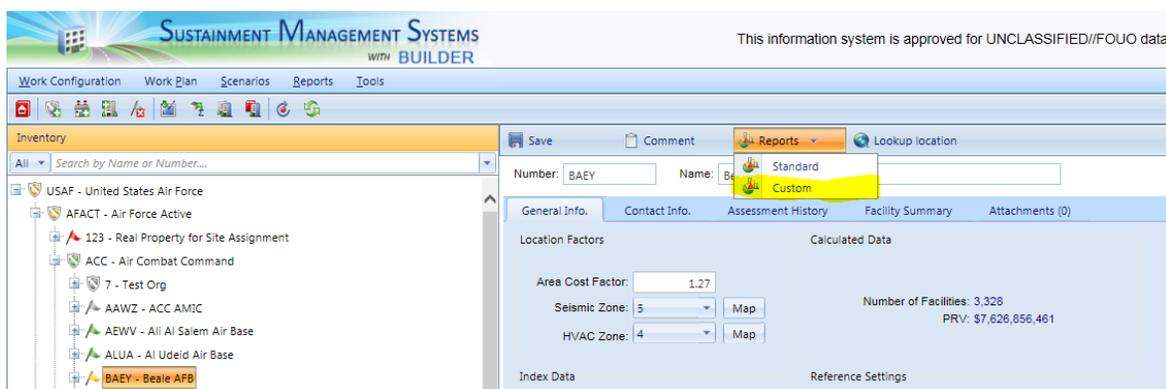
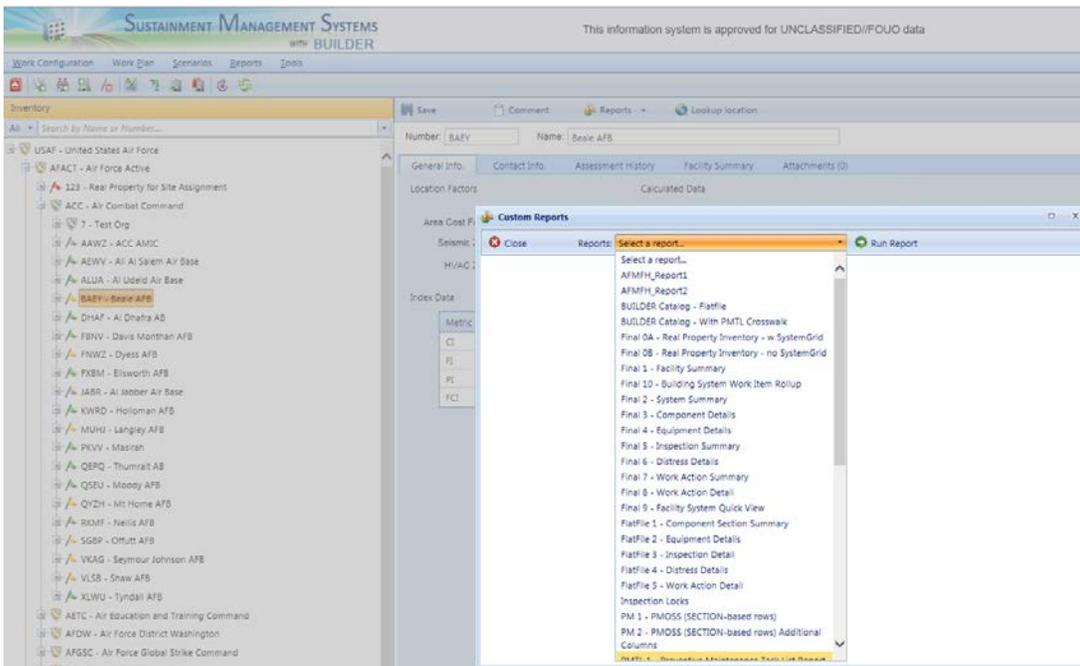

Figure 1: Location of Custom Reports in BUILDER 3.3.1. (This example shows the Site level being selected; thus only Custom Site level reports will render.
Figure 2: List of Custom Reports (Example showing Custom Reports available at the Site level.)
1. Figure 1: Location of Custom Reports in BUILDER 3.3.1.
2. Figure 2: List of Custom Reports
The Custom Reports (see Figure 1) menus will differ depending upon what hierarchy level in BUILDER a report is launched. Reports can be launched in BUILDER from the ORGANIZATION (🏢), SITE (📍), COMPLEX (🏠), and FACILITY (🏢) levels. That is, if a user has selected a SITE within the BUILDER Inventory hierarchy tree and then chooses the Custom Reports menu, the drop-down menu (see Figure 2) will display a list of SITE-LEVEL reports. This drop-down menu may offer considerably different choices if a user has selected an object at the ORGANIZATION, COMPLEX or FACILITY level.